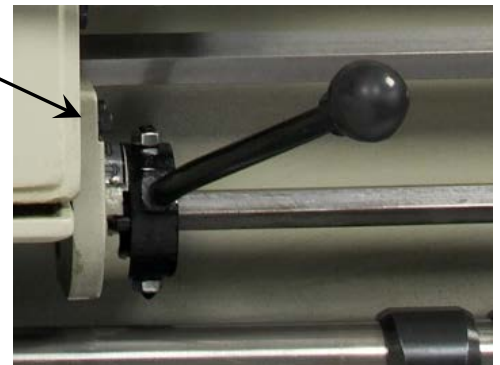

figure 43
**WARNING:** Before powering up machine, make sure Fwd/Rev. handle is in the center (neutral) position (fig. 43).
Spindle rotation is controlled from the handle on the right hand side of the apron as indicated in (fig. 43). Move the handle down and the spindle will rotate in a counterclockwise (ccw) direction. Move the handle up and the spindle will rotate in a clockwise (cw) direction. The middle (neutral) position stops the motor.